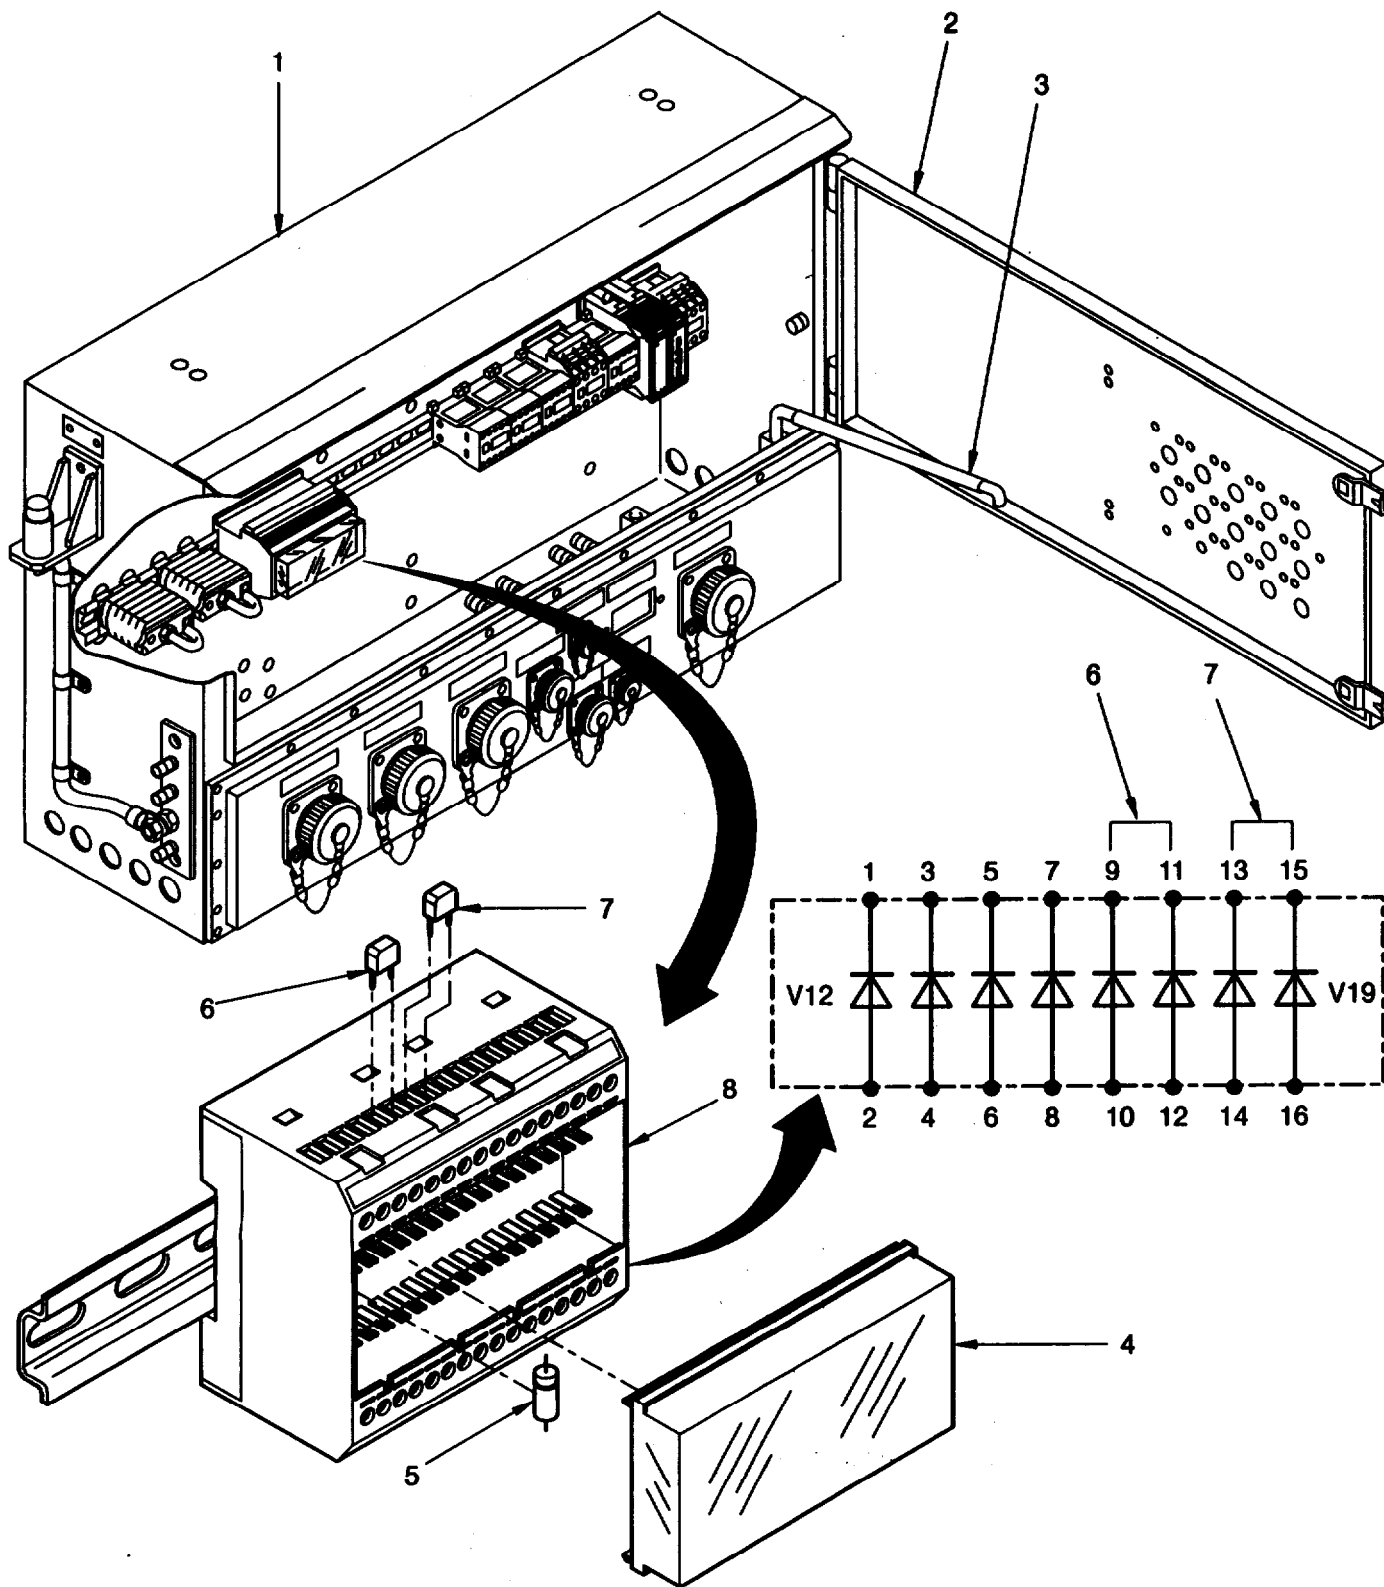

Figure 5-13 Electronic Module A1 Assembly.
- a. Remove stanchion by PDU (1, figure 5-13).
- b. Open access door (2) and secure with prop (3).
- e. Record labeling and position of cables and remove cables from electronic module A1 (8).
- f. Push in tab on bottom of electronic module A1 (8) and lift out electronic module.